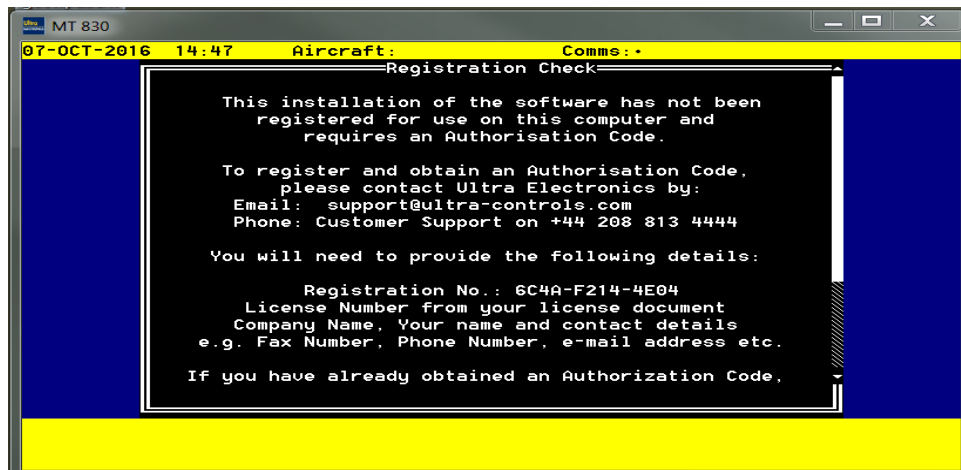

Figure 1.12 – 'Registration Check Screen'
- (1) This process is required to be followed the first time after the MT software has been installed onto a laptop computer and when the authorisation code expires.
- (2) Switch the Laptop PC on and start the Maintenance Terminal software as follows:
- (3) Click the newly created icon on the desktop named MT830.
- (4) After a few seconds the 'Welcome Screen' will be displayed (Ref. Figure 1.11) followed by the 'Registration Check Screen' (Ref. Figure 1.12).
- (5) Call or e-mail Customer Support Ultra Electronics, Precision Control Systems for your Authorisation Code. You will need to give the following information:
- (c) The Registration Number generated by the MT (Ref. Figure 1.12).